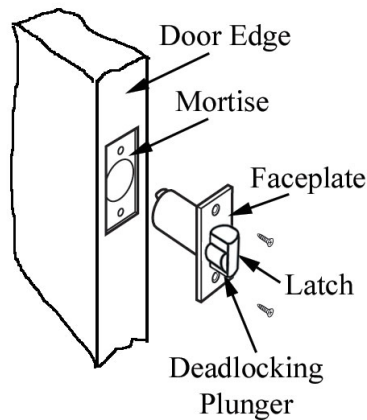
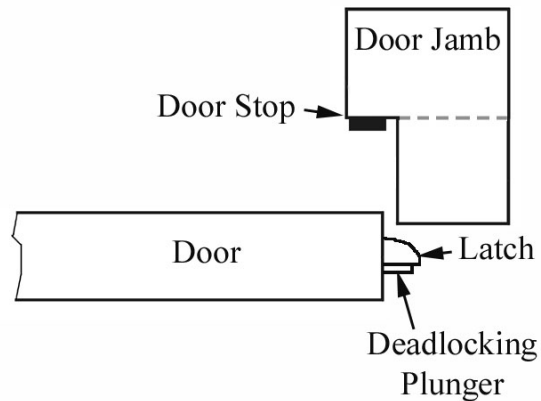

Figure 2-20 – Mortising Latch on Door Edge
Figure 2-21 – Latch Orientation on Door Edge
2.7.1 If not already done, mortise the edge of the door to accommodate the Latch & Faceplate (Figure 2-20).
2.7.2 Making certain that the Latch is properly oriented (*Note: The Deadlocking Plunger of the Latch must face away from the Door Stop of the Doorjamb*, Figure 2-21.), install the Latch & Faceplate with the two screws provided (Figure 2-20).